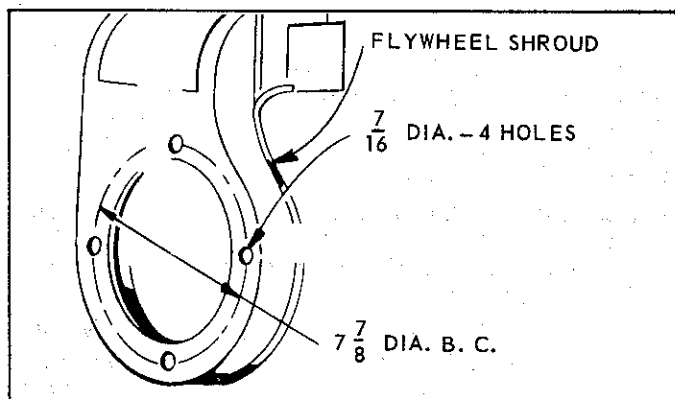

FIG. 4
E. Drill four 7/16 inch diameter holes on the 7-7/8 inch diameter bolt circle, as illustrated in Fig. 4.